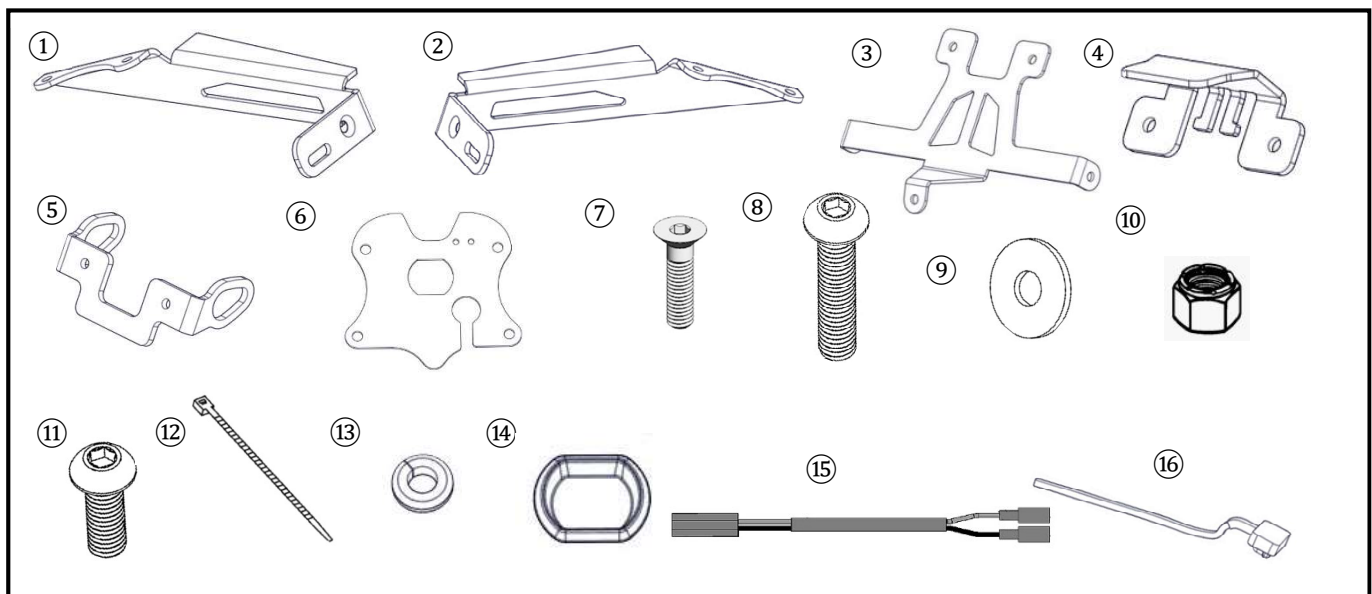

Fig. 1
1. Pre-cut the ⑬ Rubber Grommet for wire fitment later in the installation.
2. Install the ⑬ Rubber Grommet and ⑭ Cap into the ⑥ Mudguard by pressing them into place. Align the cut with the opening. (Fig. 1)
3. Insert the ⑯ License Light Assembly wire through the access hole in the ④ LED Mount Bracket. Peel the adhesive backing from the ⑯ License Light Assembly and place it on the ④ LED Mount Bracket. The wire will fit under and in between the ① and ② Left and Right Main Brackets. (Fig. 1 and 2)